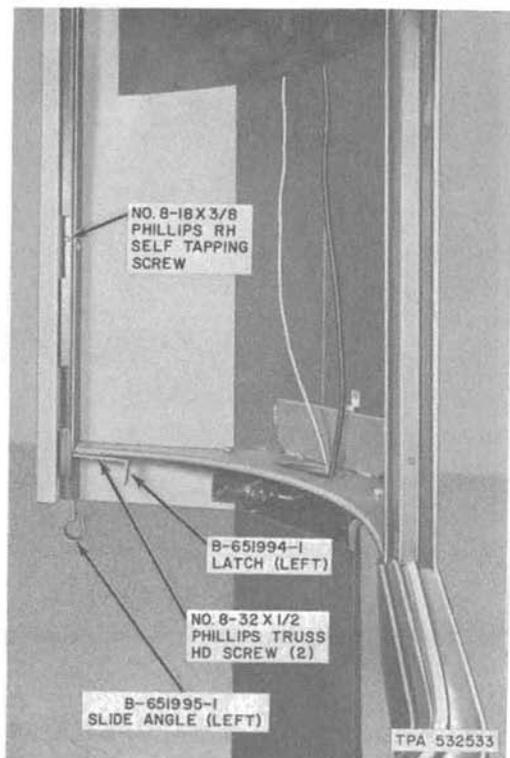

Fig. 23—Apparatus For Securing Panels
3.10 Access to the circuit breaker, ground lug, and mounting holes for the 123A1A protector is obtained by removing the lower left inside wall panel as follows (Fig. 23):
- Remove the No. 8-18 by 3/8 Phillips RH self-tapping screws (Fig. 23) located along door facing.